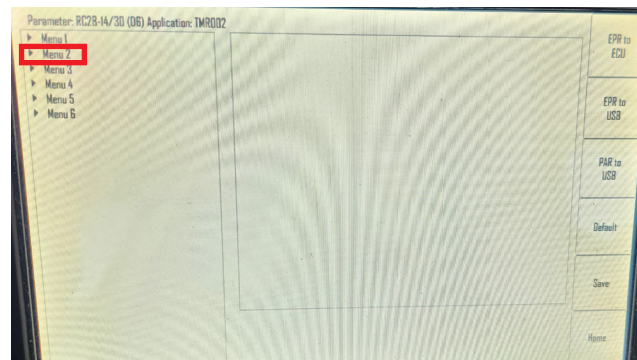

Figure 16: Select 'Menu 2'
18. Using the selector wheel, scroll down to 'Menu 2'; see Figure 16.